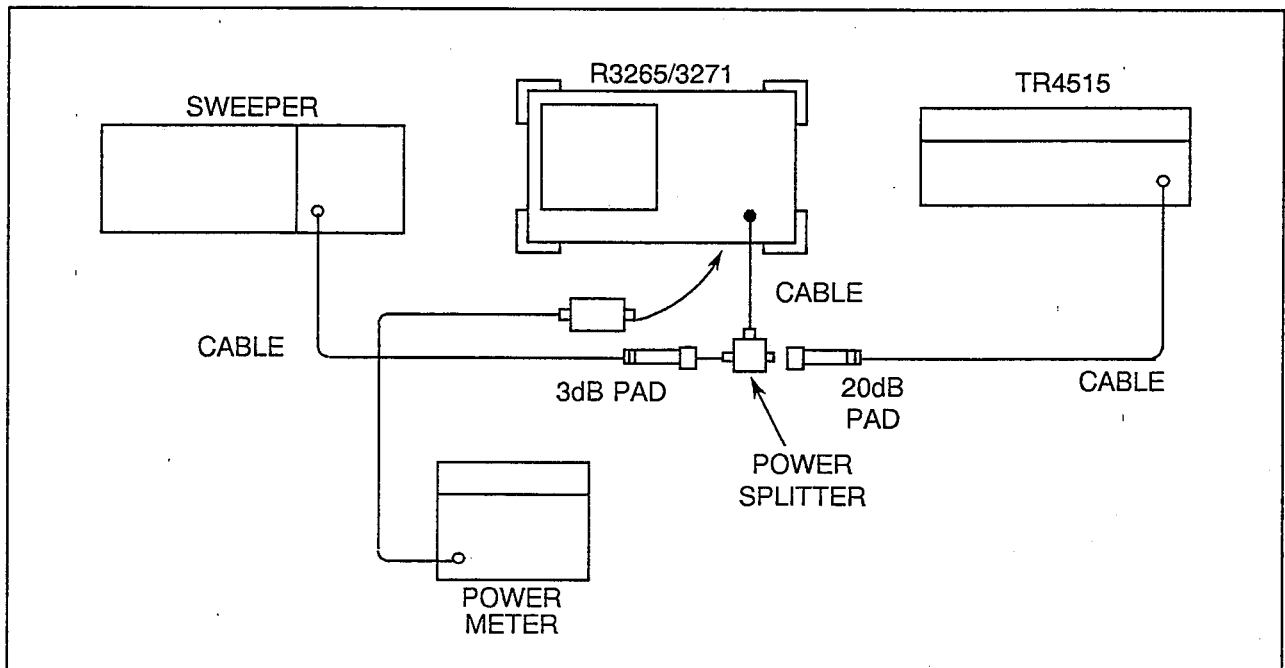

Figure 4-10 Gain Compression Test Setup
- (1) Zero and calibrate the power meter.
- (2) Connect the equipment as shown in Figure 4-10.
- (3) Press the INSTR PRESET by on both the TR4515 and the sweeper.